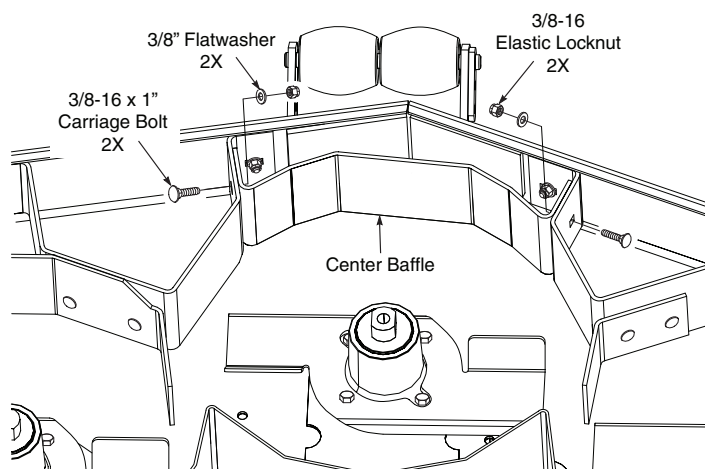

Figure 7. Center Baffle Installation
11. Install the Center Baffle as shown in Figure 7. Secure using 3/8-16 x 1" carriage bolts, 3/8" flatwashers and 3/8-16 elastic locknuts. Do not tighten the hardware at this time. See Figure 7.